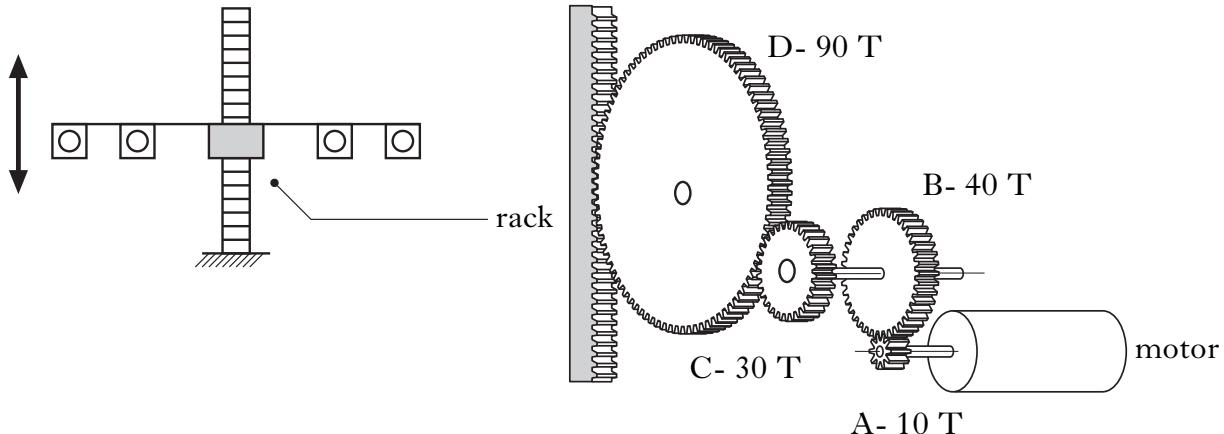

Figure Q11(a)
11. A motorised system used to raise and lower a lighting gantry is shown in Figure Q11(a).